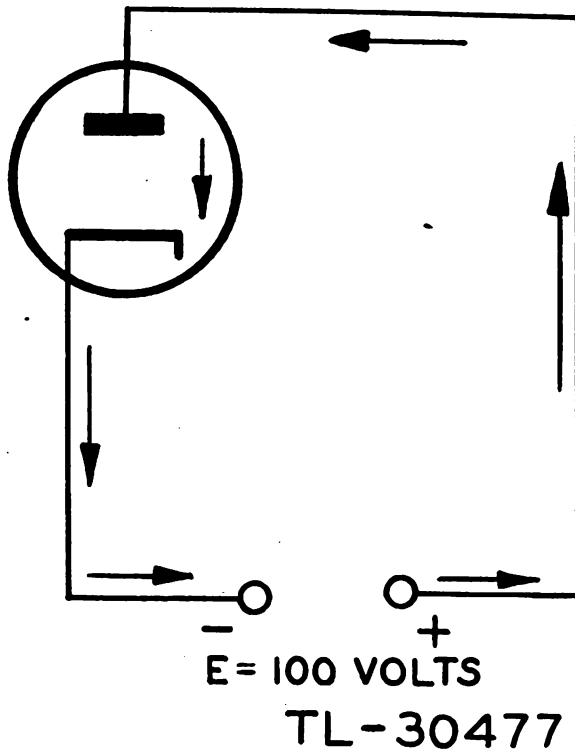
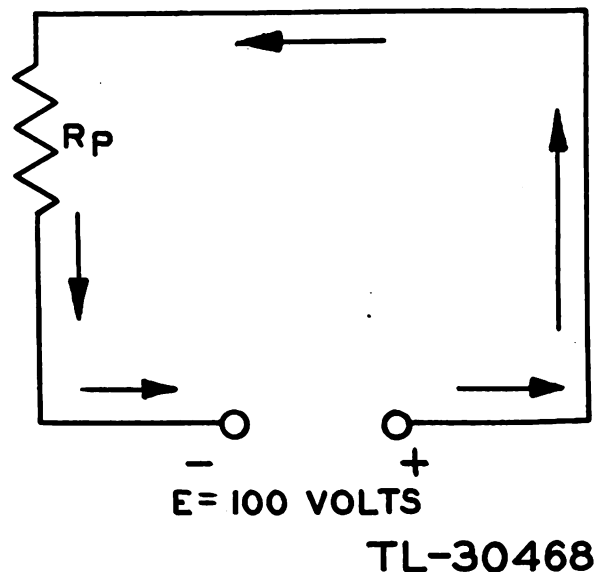

Figure 42. Voltage measurements functional schematic.
Figure 43. Voltage measurements functional schematic.
c. Plate Circuit. (1) Current flow through the cathode-plate circuit of a diode vacuum tube, is shown in figure 42. Although the cathode and plate elements inside the tube are not mechanically joined, current does flow between these elements when the plate has a higher potential than the cathode. In addition, this current flow causes a voltage drop inside the tube as a resistance (d-c plate resistance of the tube) exists between these elements. This circuit can be represented as shown in figure 43, with the resistance R_p symbolizing the resistance between the plate and cathode of the tube.
(2) Another illustration of a plate-cathode circuit series connection is shown in figure 44, and is the same as figure 42 with the addition of resistor R_L . Representing the plate-cathode resistance of the tube as R_p and giving values of 25,000 ohms and 100,000 ohms to the resistances, as shown in figure 45, the voltage drops in this circuit can be determined. The